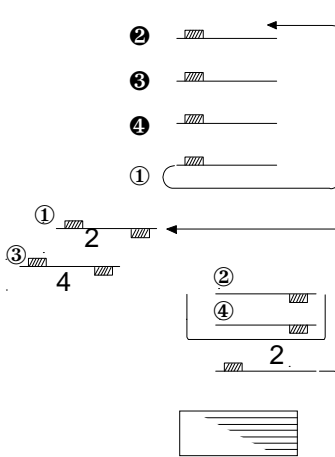

Fig 5
- 5) The 1st original is scanned. The copy which has been in the stand-by position is fed for copying the 1st original and then fed out onto the copy tray [Fig 5].